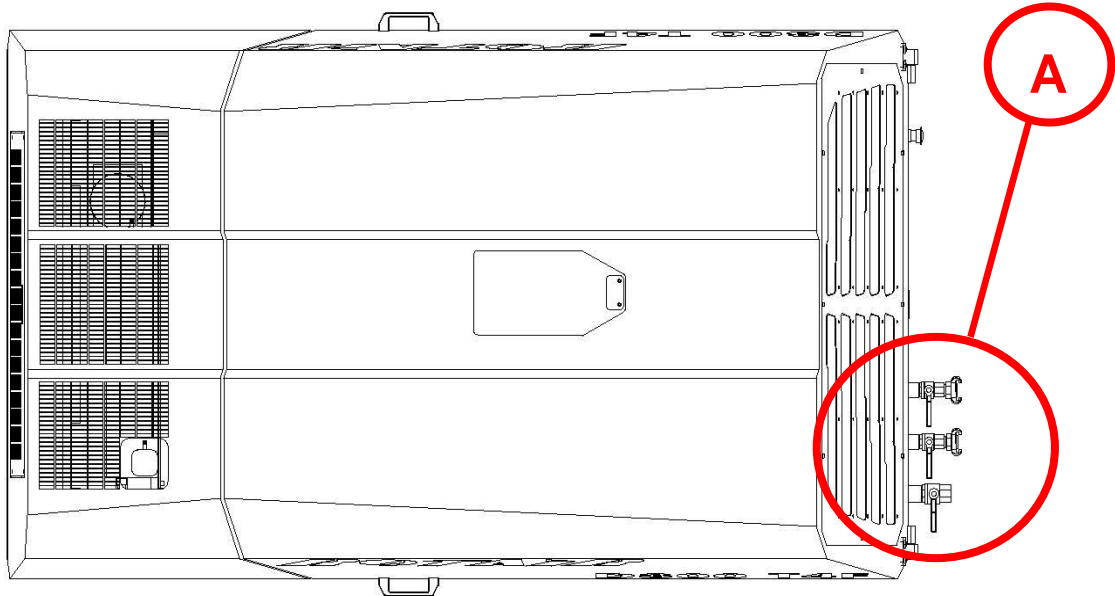

Figure 10.2-1 Location of the service valves (top view)
- 3) Progressively open the service valve (Letter A Figure 10.2-1).
3. Close all faucets (Letter A in Figure 10.2-1);
3. Close all service valves (Letter A in Figure 10.2-1);
3. Gradually open the service valve (Letter A in Figure 10.2-1);
5. Release the lock-nut (1);
6. Tighten the regulation screw (2) to increase the pressure to the desired value;
7. Loosen the regulation screw (2) to reduce the pressure to the desired value;
8. Tighten the lock nut (1) and close the service valves;
10. Re-open slowly the service valve (Letter A Figure 10.2-1) and close it again repeating the process a few times to allow the settling of the valve;